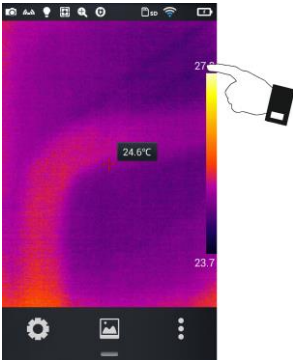
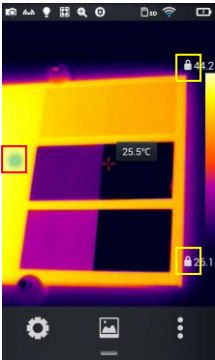

Figure 1
Figure 2
1. Enter the real-time image mode and press the maximum or minimum temperature value on the color bar on the right side of the screen (see Figure 1 below). The lock symbol will appear next to the temperature value and the round virtual button will be displayed on the screen (see Figure 2 below). The mode for a manual contrast adjustment will be initiated.